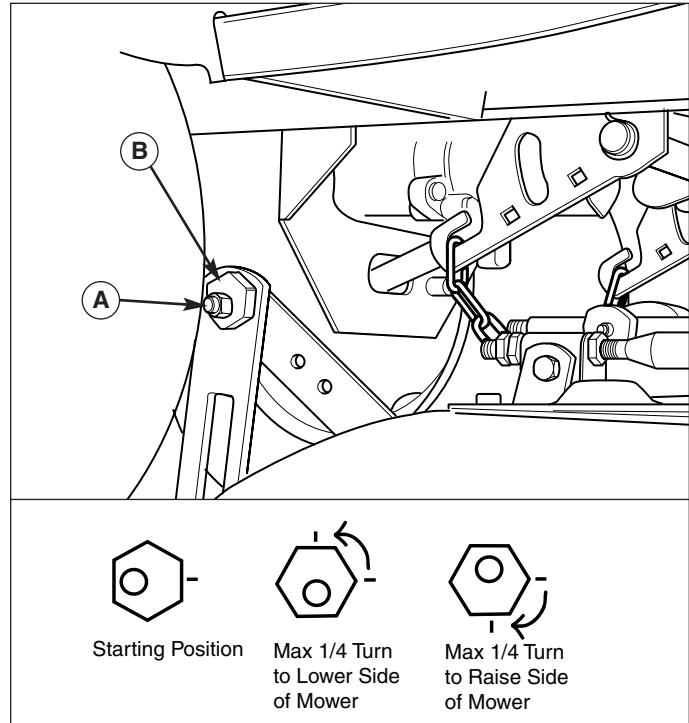

Figure 47. Side-to-Side Adjustment
7. See Figure 47. Loosen the outside nut (A) then turn the eccentric nut (B) to raise or lower the left side of the deck. Repeat on the right side of the deck. When the mower deck is level, hold the eccentric nut while tightening the outside nut.